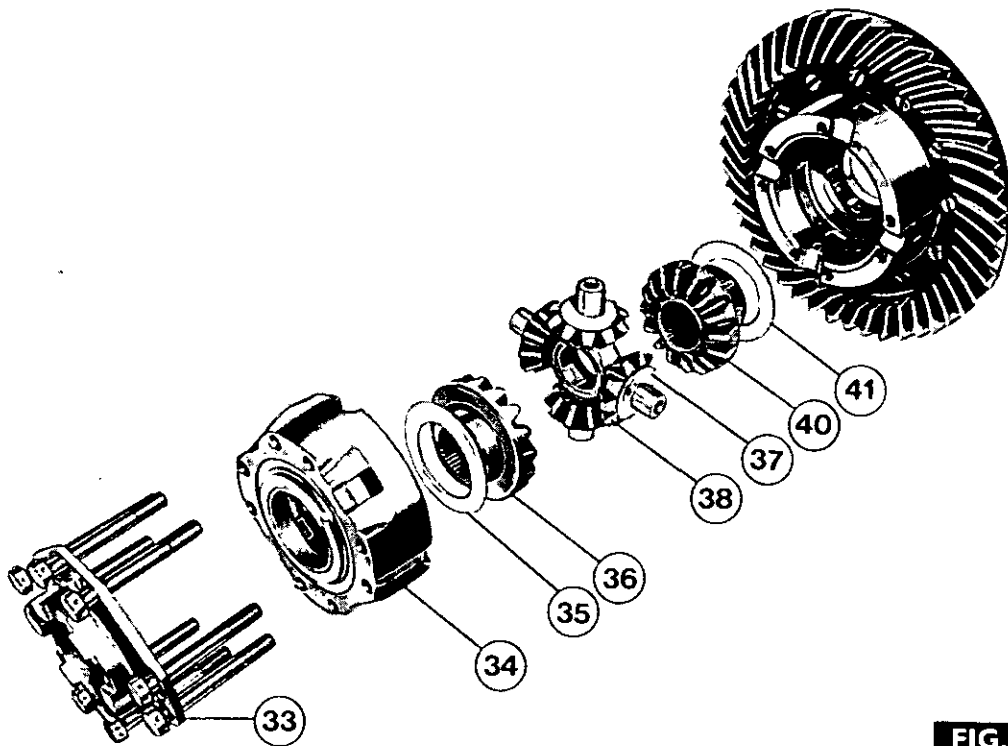

FIG. 32
5. Fig. 32. Lift out the L.H. differential gear (40) with its thrust washers (41) cross joint and pinions assembly (38), with their thrustwashers (37) then finally remove the remaining differential gear (36).
1. Fig. 32. Refit the R.H. differential gear (36) and thrust washer (35) into the differential case followed by the cross joint and pinion assembly (38) then finally the remaining differential gear (40) and thrust washer (41).